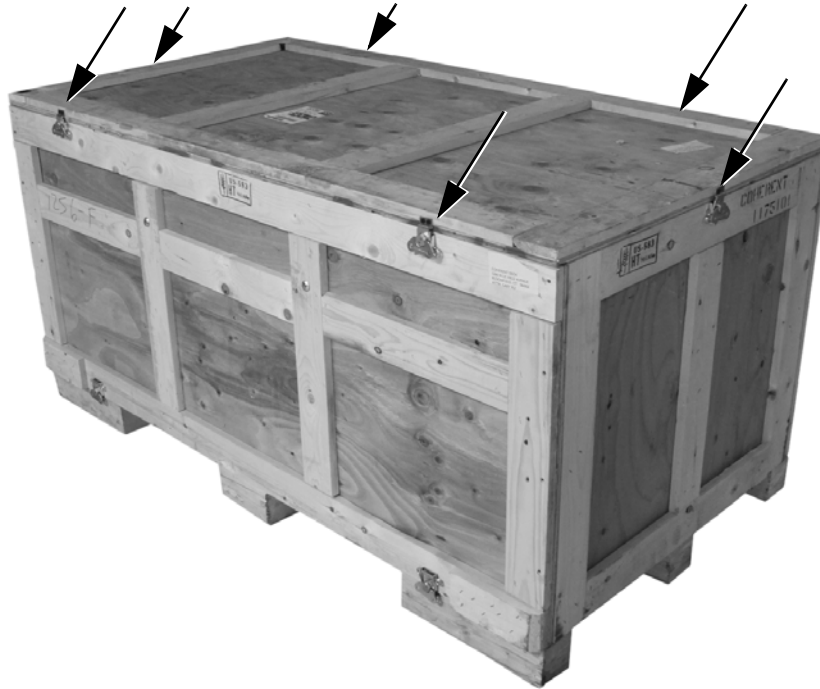

Figure 4-8. Removing Crate Cover
1. Unlock all six (6) clasps of the top cover (Figure 4-8).